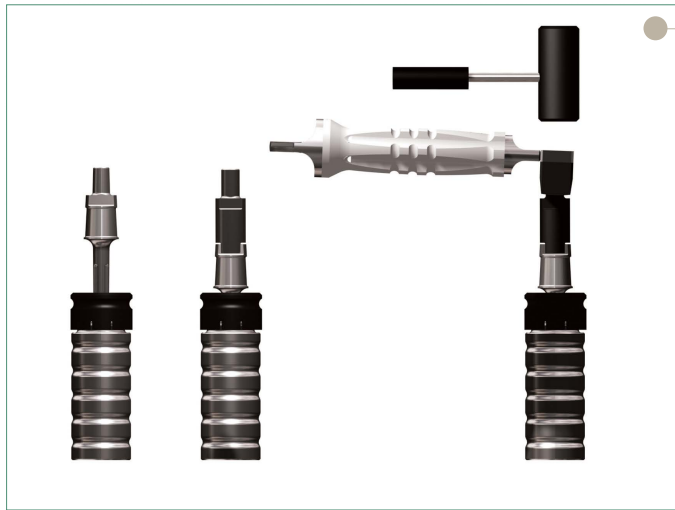

Figure 26
- ▶ The Extension Piece (if required) and the cemented Stem are assembled first. The cemented Stem is placed into the Impaction Tube and the Extension Piece is mated with it. The 5-in-1 Impactor is placed over the taper of the Extension Piece and impacted with a heavy Mallet to lock the tapers (**Figure 26**).